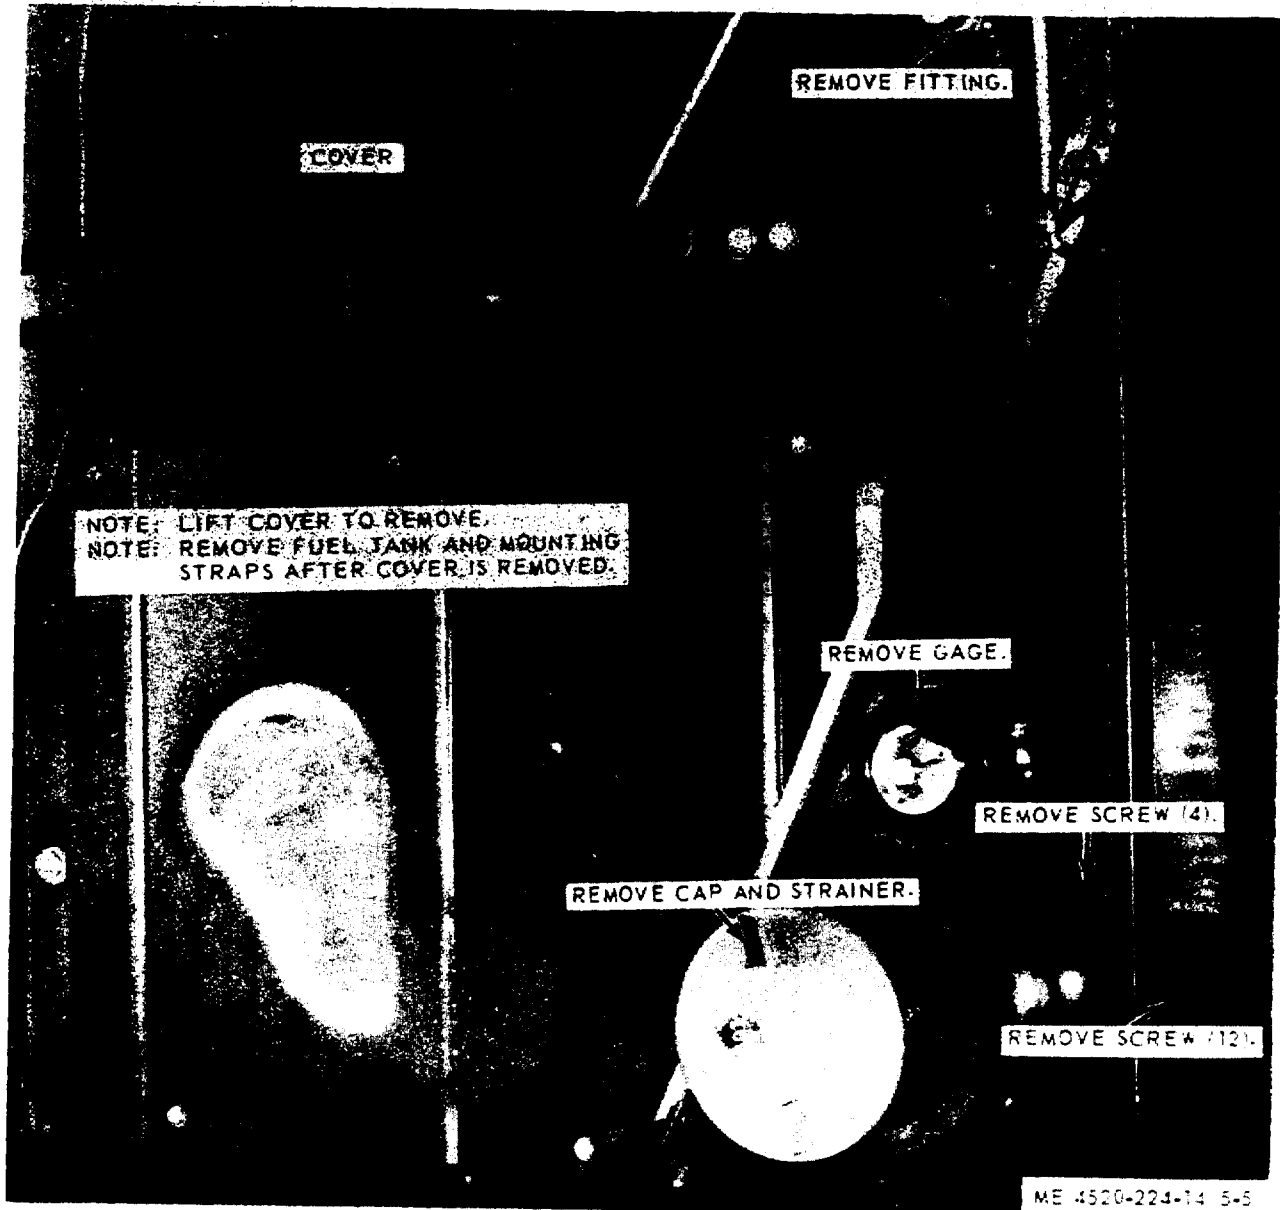

Figure 5-5. Fuel tank, removal and installation.
- (1) Remove the burner assembly, paragraph 5-9.
- (2) Remove the fuel tank gage, paragraph 4-49.
- (3) Remove the fuel lines, paragraph 4-41.
- (4) Refer to figure 5-5 and remove the fuel tank.
- (1) Refer to figure 5-5 and install the fuel tank.
- (2) Install the fuel lines.
- (3) Install the fuel tank gage.
- (4) Install the burner assembly.